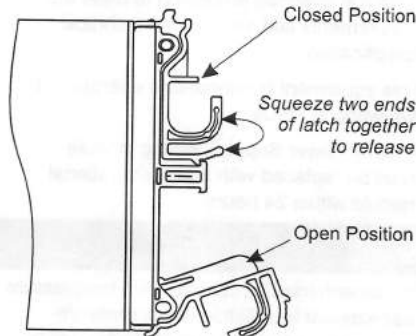

Figure 4 SBD Module Latch
2. Cam the module home by manually closing the latches (see Figure 4).